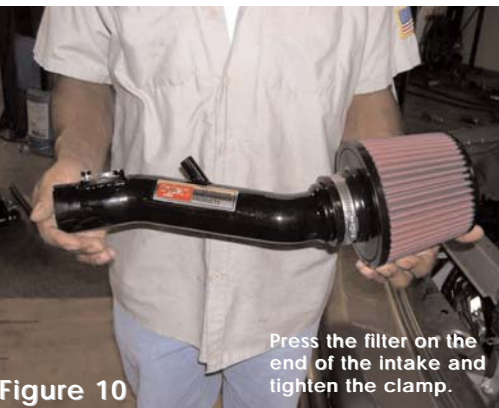

Figure 10
8. Take the filter and intake and firmly press the filter over the end of the intake. Tighten the clamp on the filter neck. (See fig. 10 )
9. Insert the filter end into the resonator opening on the fender well then carefully press the top end of the intake into the 2.25" hose on the throttle body. Line up the bracket on the intake to the vibra-mount stud located on the base of the battery tray. Once the intake has been set in place semi-tighten the clamp on the 2.25" hose. (See figs. 10,11,12 and 13)